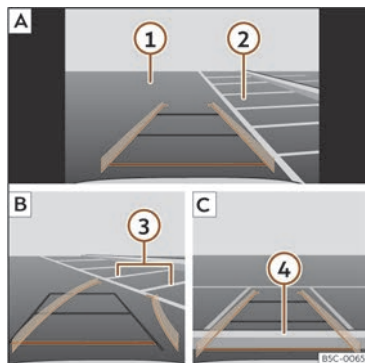

Fig. 190 Display on the Infotainment system screen.: parking with reverse assist.
Key to the **Fig. 190**:
- Place the vehicle in front of the parking space >>> **Fig. 190 ②** **A**.
- Reverse while turning the steering wheel so that the yellow lines enter the parking space. The green and yellow lines must match the side boundary lines **③** **B**.
- Stop the vehicle when the red line has reached the rear boundary **④** **C**.